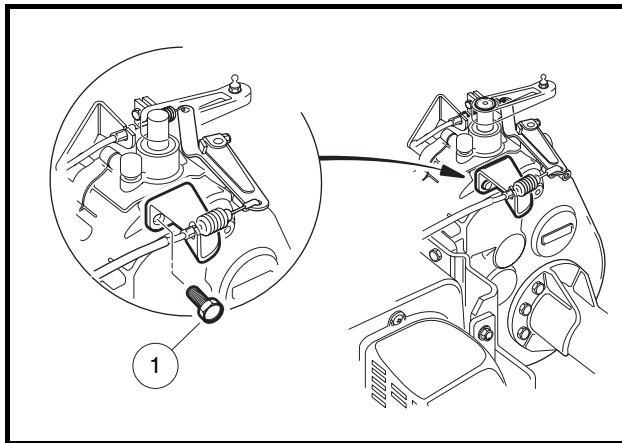

Figure 16-32 Governor Cable Bracket
19. Remove screws (1) securing the governor cable bracket to transaxle (**Figure 16-32, Page 16-14**).
7. Install the governor cable bracket on transaxle case. Tighten the mounting screws to 134 in-lb (15.1 N·m) (**Figure 16-32, Page 16-14**).